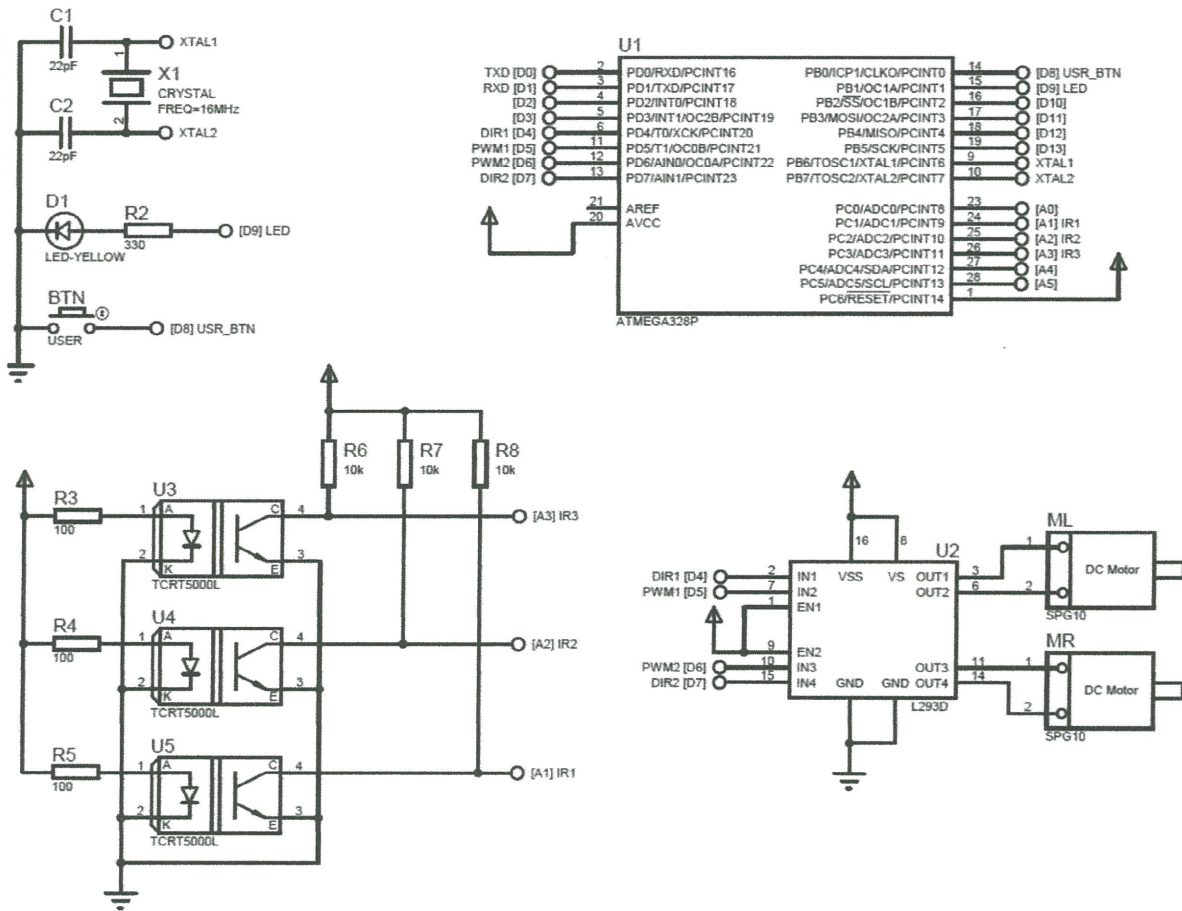

FIGURE Q2
- (b) List **FOUR (4)** typical characteristics of real-time system. (4 marks)
- Q2** (a) Explain **TWO (2)** important functions or subroutines that are normally used in Arduino software sketch. (2 marks)
- (b) An Arduino-based mobile robot is designed to move forward by following a black line on white background. It has two motors, an LED, a user button, and three line sensors. Its system architecture and complete schematic are given in **Figure Q2**.
- (ii) The user button is connected to pin D8 and has a problem of floating state during inactive (i.e. button not pressed). Find **TWO (2)** solutions to this problem. (4 marks)
- (iv) Assume that left motor (ML) and right motor (MR) have the same specification and performance. Rewrite the following subroutine for controlling speed and direction of both motors with correct syntax and code statement.